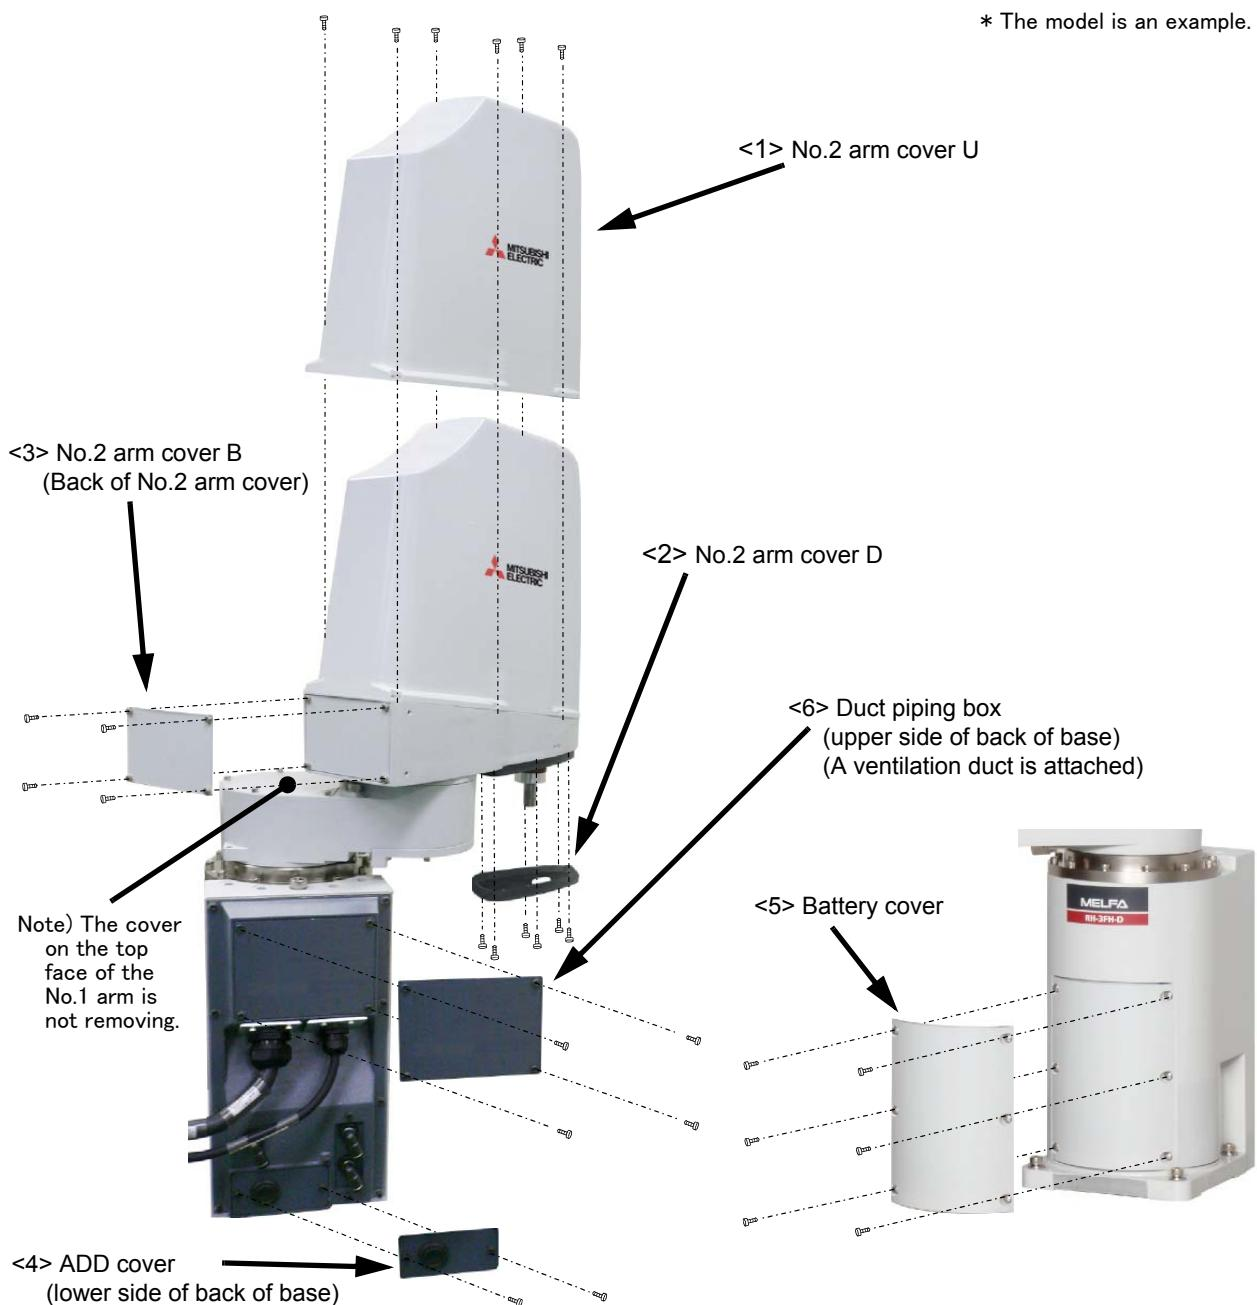

Fig.5-3 : Installing/removing the cover
- (1) Refer to Fig. 5-3 and remove the covers.
- (2) The names of the covers and installation screws are given in Table 5-3.
- (3) When reattaching the covers after a maintenance inspection, proceed in the reverse order of their removal.
- 2) Refer to Page 75 "Fig. 5-3: Installing/removing the cover", and remove the No.2 arm cover U.
- 1) Refer to Page 75 "Fig. 5-3: Installing/removing the cover", and remove the No.2 arm cover U.